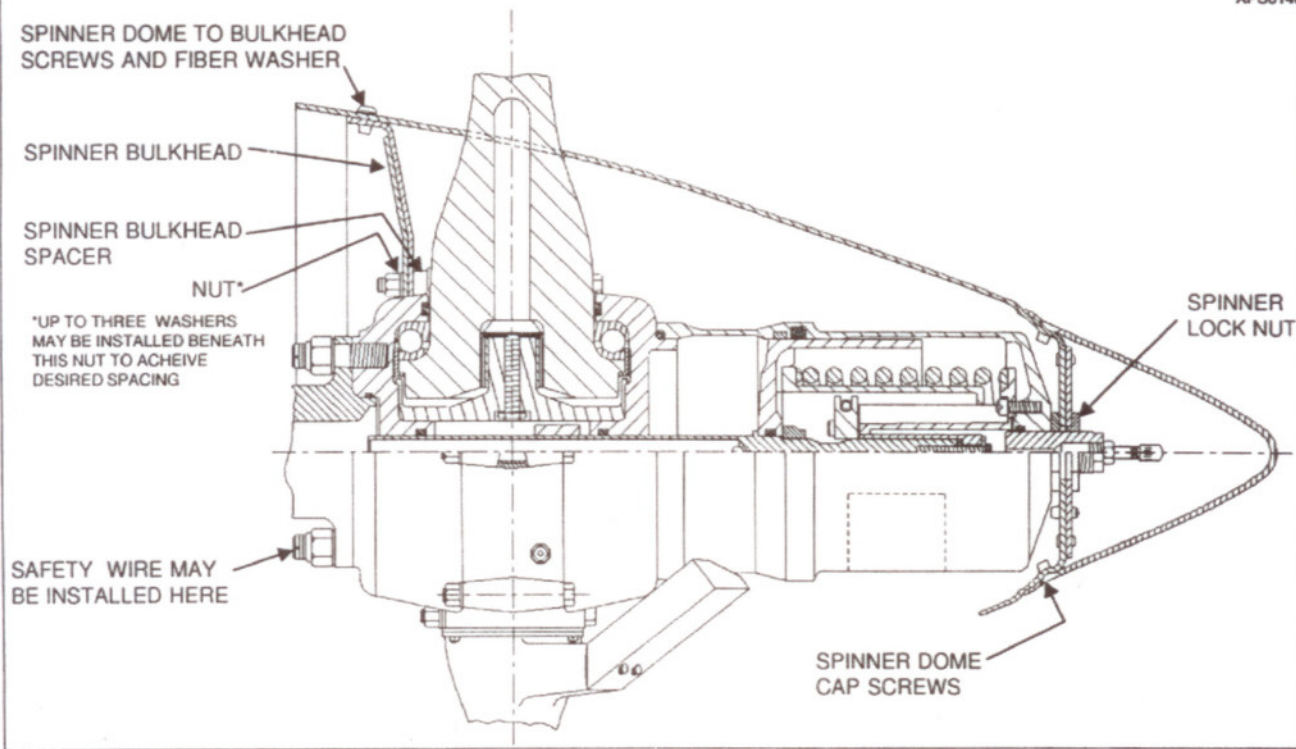

Figure 302 -Spinner Bulkhead and Spinner Mounting (Hub Mounted Spinner)
- (3) See Figure 302. Place the spinner bulkhead spacers on the hub clamping bolts. Install the spinner bulkhead over the installed spacers on the hub clamping bolts.
- (5) Torque the 1/2 inch propeller mounting nuts (dry) as indicated in Table 301. Safety wire the studs in pairs (if required by aircraft maintenance manual) at the rear of the propeller mounting flange. See Figure 302.
- (6) Install the propeller spinner dome in accordance with Spinner Installation within this chapter.
- (5) Torque the $\frac{9}{16}$ inch propeller mounting nuts (dry) as indicated in Table 301. Safety wire the studs in pairs (if required by aircraft maintenance manual) at the rear of the propeller mounting flange. See Figure 302.